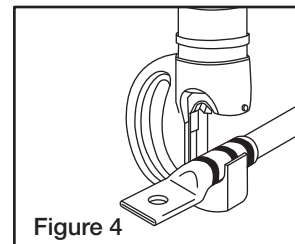

Figure 4
4. Fully insert conductor into connector (Figure 4).